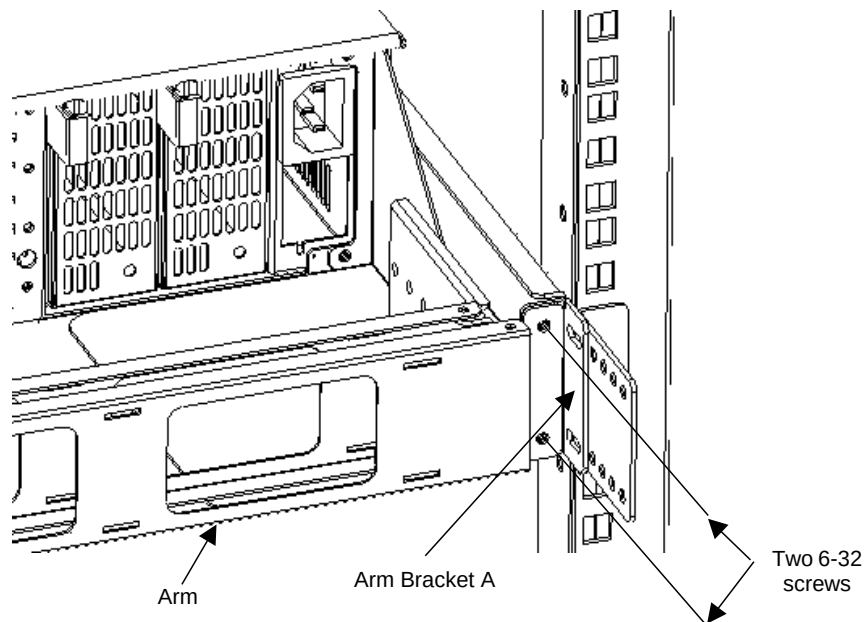

Figure 2-17. Installing the Cable Arm to Arm Bracket A
5. Install the free end of the cable arm to Arm Bracket A using two 6/32 screws. See Figure 2-17.